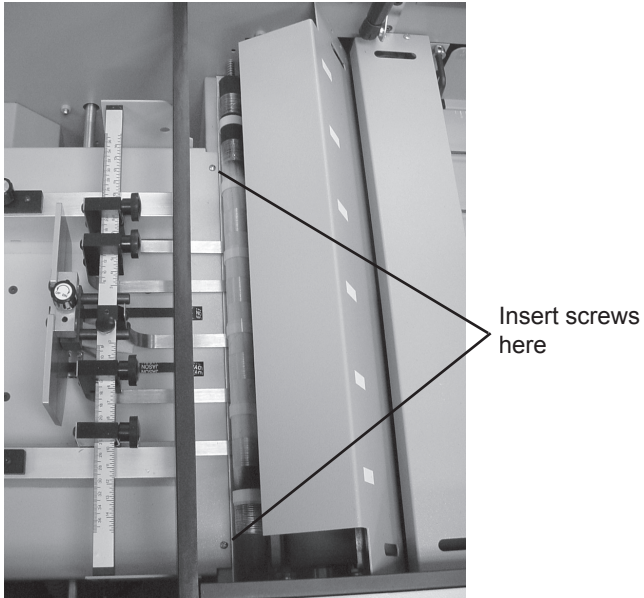
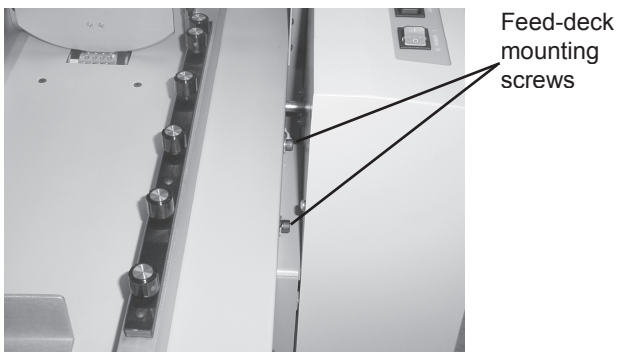

Fig 9
Fig 10
5. Secure table into place. First, insert screws into inner holes (Fig 9); do not tighten at this time. Next, insert allen screws through table wall into rear brackets (Fig 10). Now tighten down all the screws.